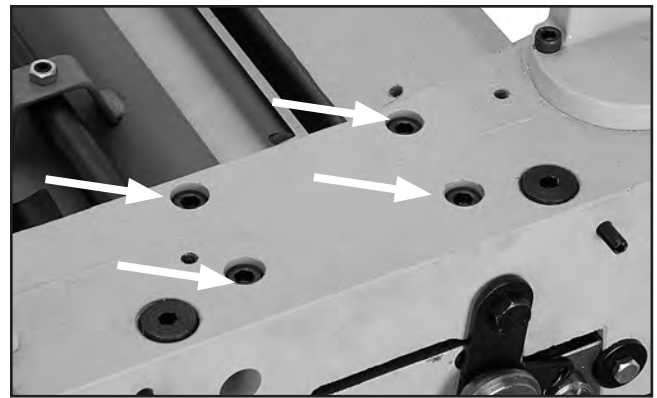

Figure 7. Gearbox cap screw location.
19. Remove the four cap screws at the top of the gearbox, shown in **Figure 7**.